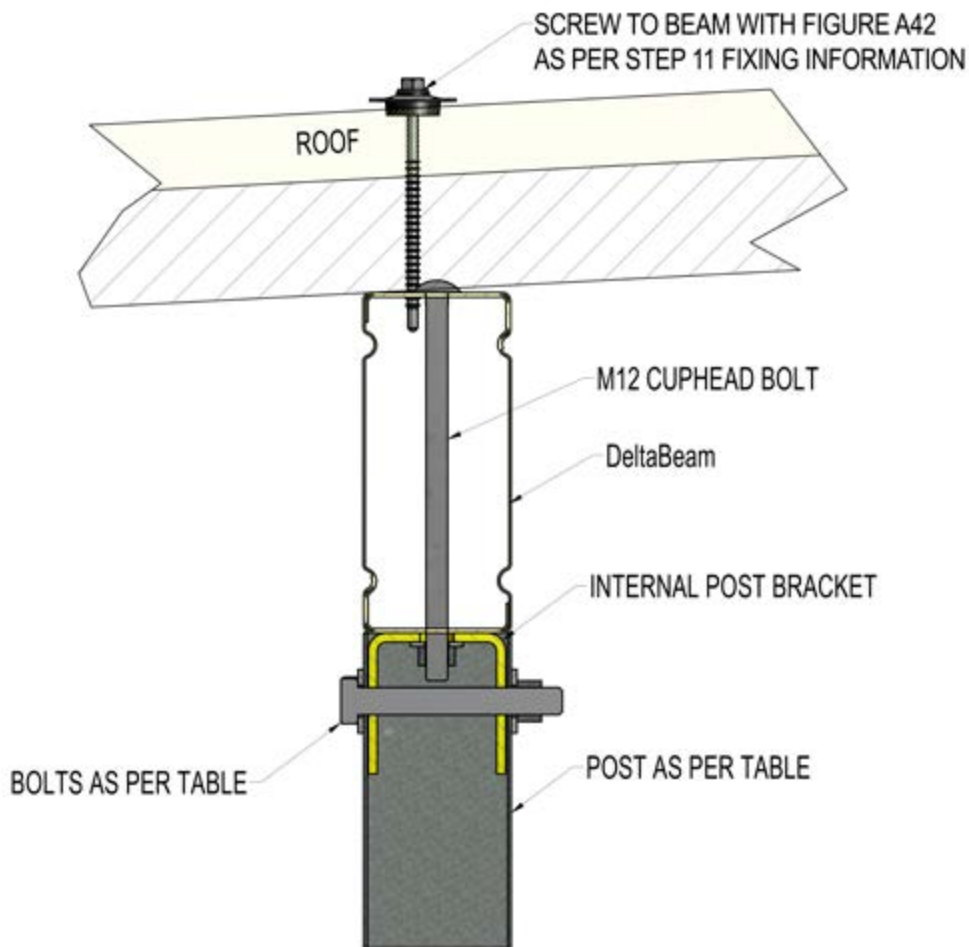

Figure A29
**Delta™ Steel or Aluminium Beam to Post (see Figure A29)**